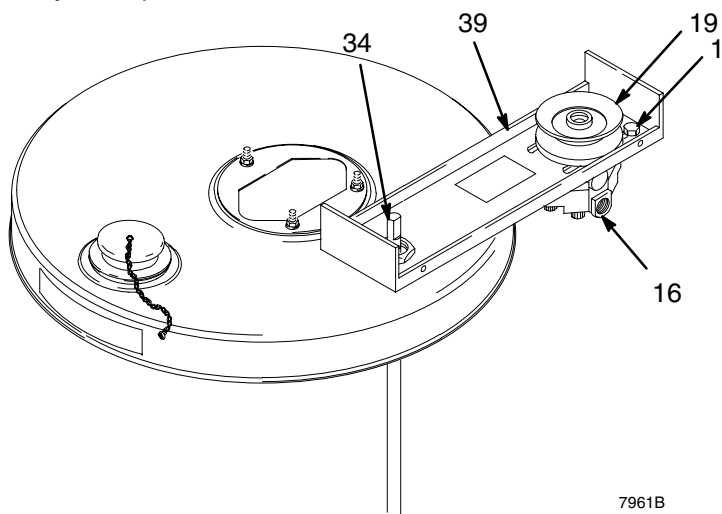

Fig. 1
Reinstall the pulley (19) and the drive belt (18) using a straight edge across the pulley faces to ensure groove alignment and eliminate excessive wear on the belt. Use the hex key wrench (6) to securely tighten the setscrew holding the pulley (19) to the shaft (34). To adjust drive belt tension, slide the motor right or left until the drive belt deflection is about 1/2 in. (13 mm). Tighten the mounting screws (1) and replace the cover (36) and screws (7). See Fig. 1.